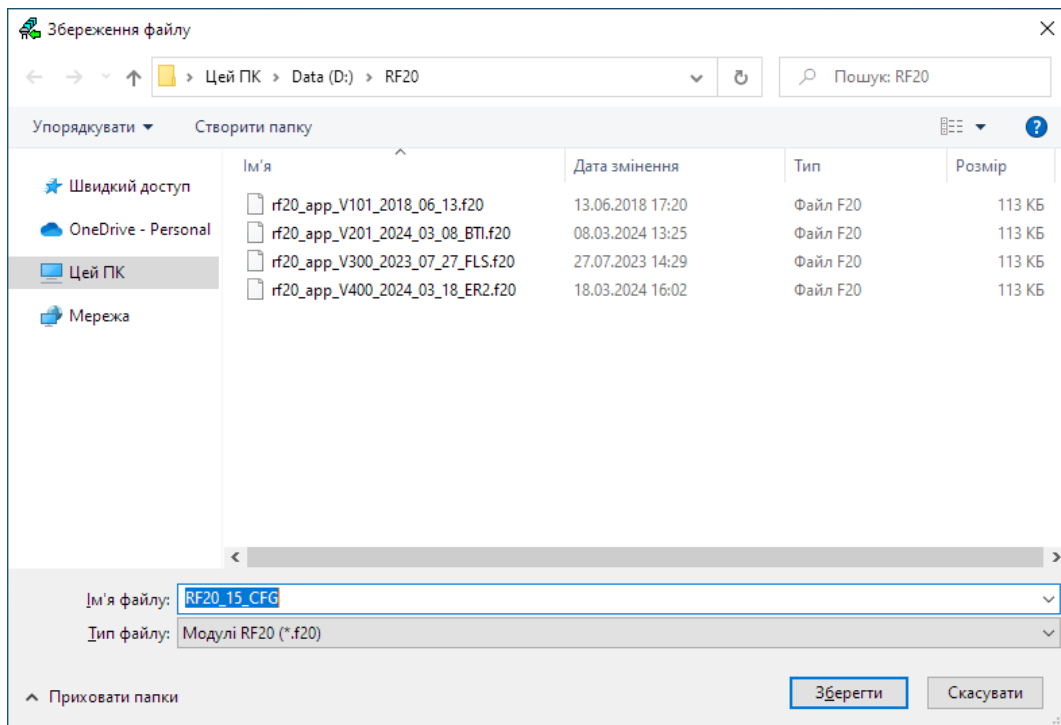

Figure D.4 – Selecting a folder and file name for saving
D.9 In the file selection window, select the folder to save and the file name, click the "Save" button (Fig. D.4):